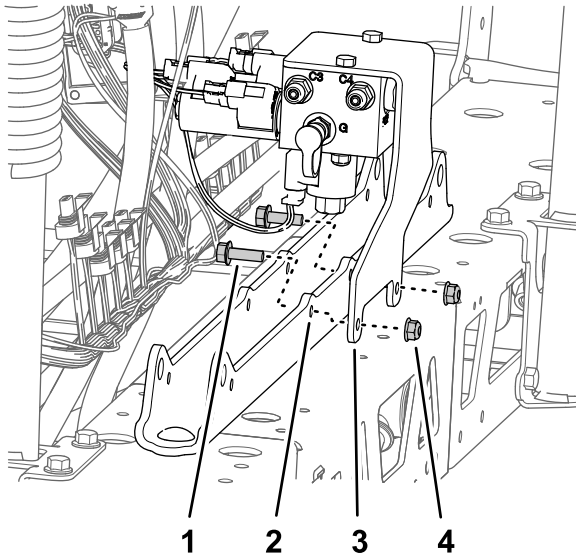

Figure 94
- A. Align the holes in the support bracket for the section-lift manifold with the holes in the cylinder mount (Figure 94).
B. Assemble the support bracket to the cylinder mount (Figure 94) with the 2 flange-head bolt (5/16 x 1 inch) and flange locknut (5/16 inch) that you removed in step 1 of Removing the Section-Lift Manifold from the Center-Spray Section (page 21).